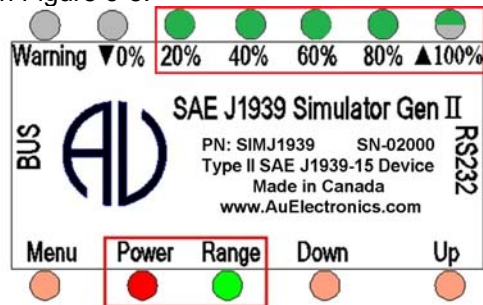

Figure 3-8
- When control step value equals to 100%, 20%, 40%, 60%, and 80% LED will be constant on. ▲ 100% LED blinks, as shown in Figure 3-8.